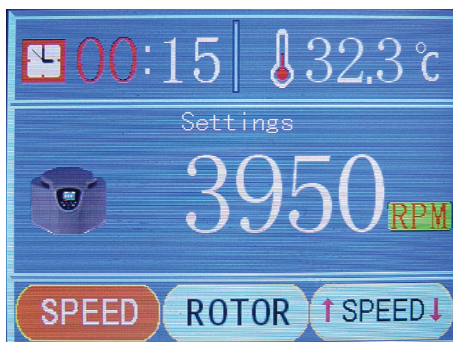

Figure 7 – Hours setup
- 7.6.5. Press the “ SET” button to enter next step, and the needed hours can be chosen by pressing the “ UP” or “ DOWN” button (**Figure 7**).